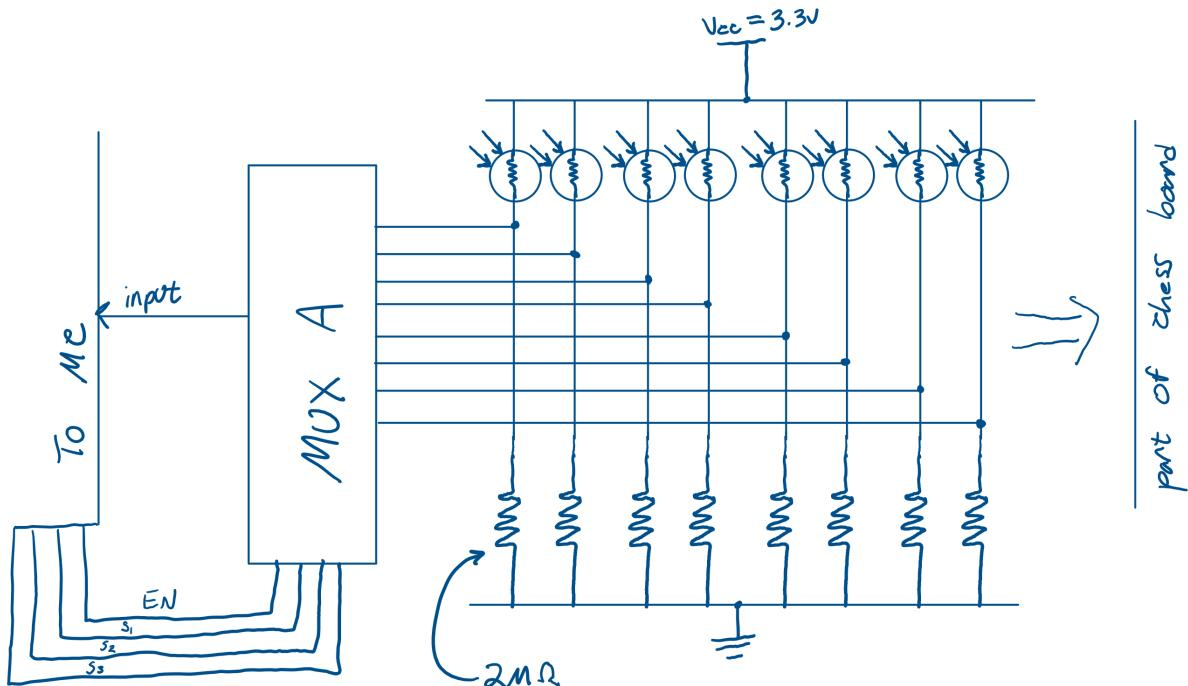

Figure 3: Multiplexer Sudo Circuit Diagram
The Chess board will have 1 LED and 1 photoresister per block. The LED will be drilled and placed on the top left side of each block and will be used to show the user where to place each piece. The photoresister will be drilled in the middle of each block and will be used as a voltage drop to tell if there is a piece there or not. See Figure 3 for the circuit layout.
Figure 3 shows the sudo circuit for Muxltriplexer A, the puzzle me chess project will consist of 8 Muxltriplexer one for each column A-H. Each of the Muxltriplexers will have 8 outgoing lines that will read Voltages levels from the rows # 1-8. Each row will have one resister which is set to be $2M\Omega$ and one Photoresister in series. Each Photoresister has two modes a light and a dark mode. Equation (1) shows Mux input voltage at 3.29VDC and equation (2) shows Mux input voltage at 2.2VDC.